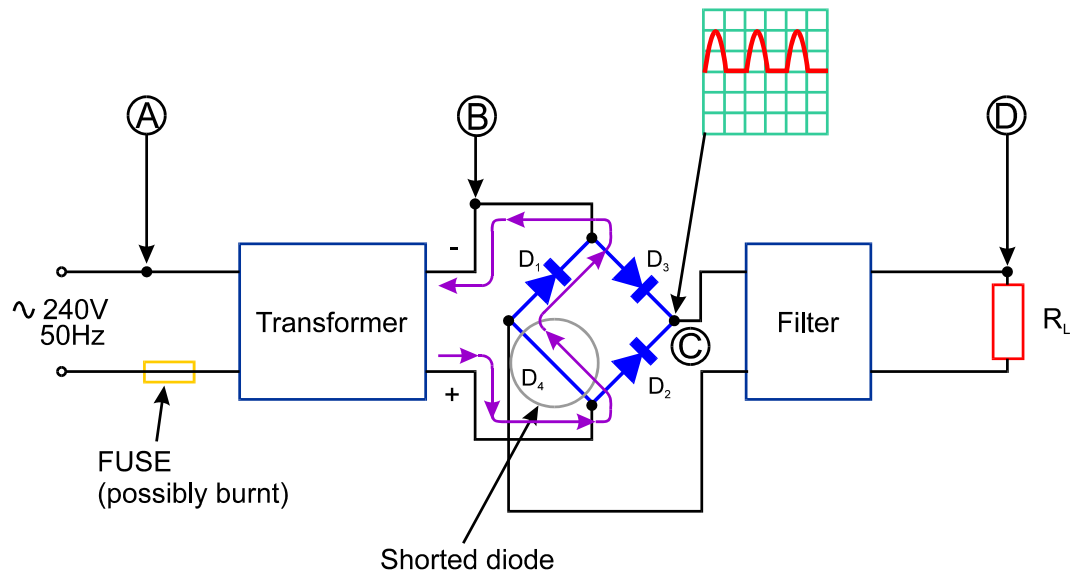

Figure 8.14
- Shorted diode.** A shorted diode appears as a jumper between the points of the connection, as it conducts the current in both directions. Figure 8.14 illustrates the current that flows in the circuit, when the diode D_4 is shorted out. During the positive half-period, the current flows through D_3 and D_4 as normal. The shorted diode exhibits zero resistance in both directions and it appears for the circuit as if it is simply forward-biased. Thus, the positive half-period appears as normal at the point C. However, during the negative half-period the picture changes. The current now flows through D_1 and D_4 instead of through the rest of the circuit, because these two diodes, connected in series provide a path of less resistance. Effectively the secondary winding is short-circuited and an
excessive current flows through it. Thus, the diode D_4 can be damaged fairly quickly, due to overheating. The increase in the current in the secondary winding increases the current in the primary winding. If the circuit is properly fused, the fuse on the primary winding should blow. If this is not the case the diode D_1 overheats (and even possibly burns) and the voltage at the test point C has the form shown in Figure 8.14. With some thought you can analyze what happens in the circuit when some other diode shorts out, or when two or more diodes short out simultaneously.